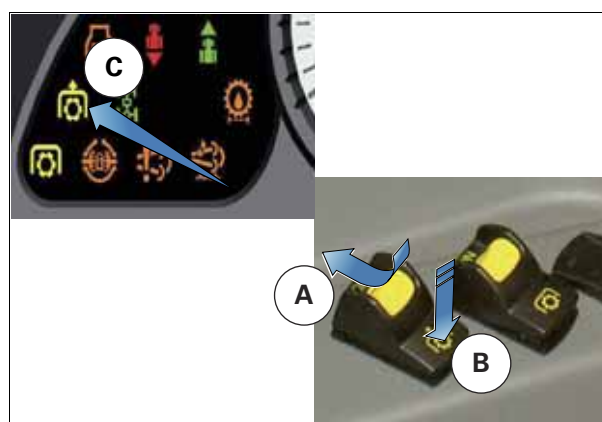

Fig. 1.
To stop the PTO, press the selector switch as shown by (B) *fig. 1*.